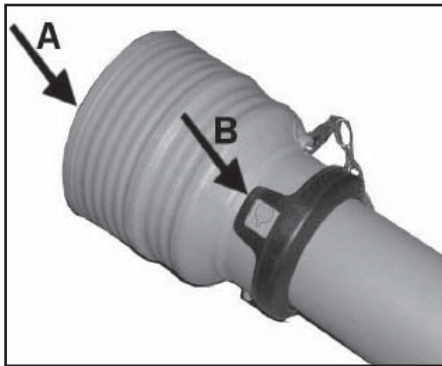

Figure 1
1. There are 2 black tabs around the cover as shown in (Ref. B, Figure 1). Take a flat screwdriver and pry under the tabs one at a time at point (Ref. B, Figure 2) lifting tab over on top of (e-shaped lock). After both tabs are released you can slide the locking ring down the shaft in direction of (Ref. C, Figure 3). Then you will see a metal e-ring (Ref. E, Figure 4) at point (Ref. D, Figure 4) you must pry under ring and remove it, (it will just slide down shaft unless you take PTO apart) then apply pressure against cover (Ref. A, Figure 1) in the direction of arrow and slide cover down shaft.